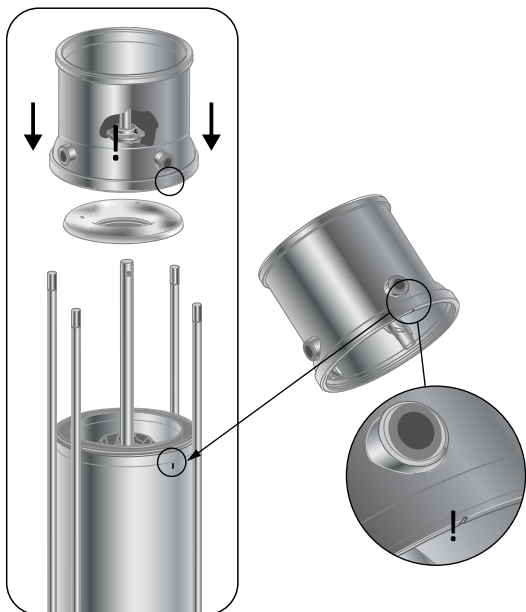

Fig. 4 Aligning cover (2), cover (2b) and sleeve (55)
1. Clean and smooth the shaft (51) using service tool C with an emery cloth supplied with the shaft-seal kit.
2. Lubricate and install a new o-ring (37) in the cover (2b).
3. Install the cover (2b) on the sleeve (55).
Note: Make sure to align the cover (2b) according to the alignment marks on the sleeve (55). See fig. 4.
Note: Make sure to align the pump head cover (2) according to the alignment marks on the pump head cover (2), the cover (2b) and on the sleeve (55). See fig. 4.